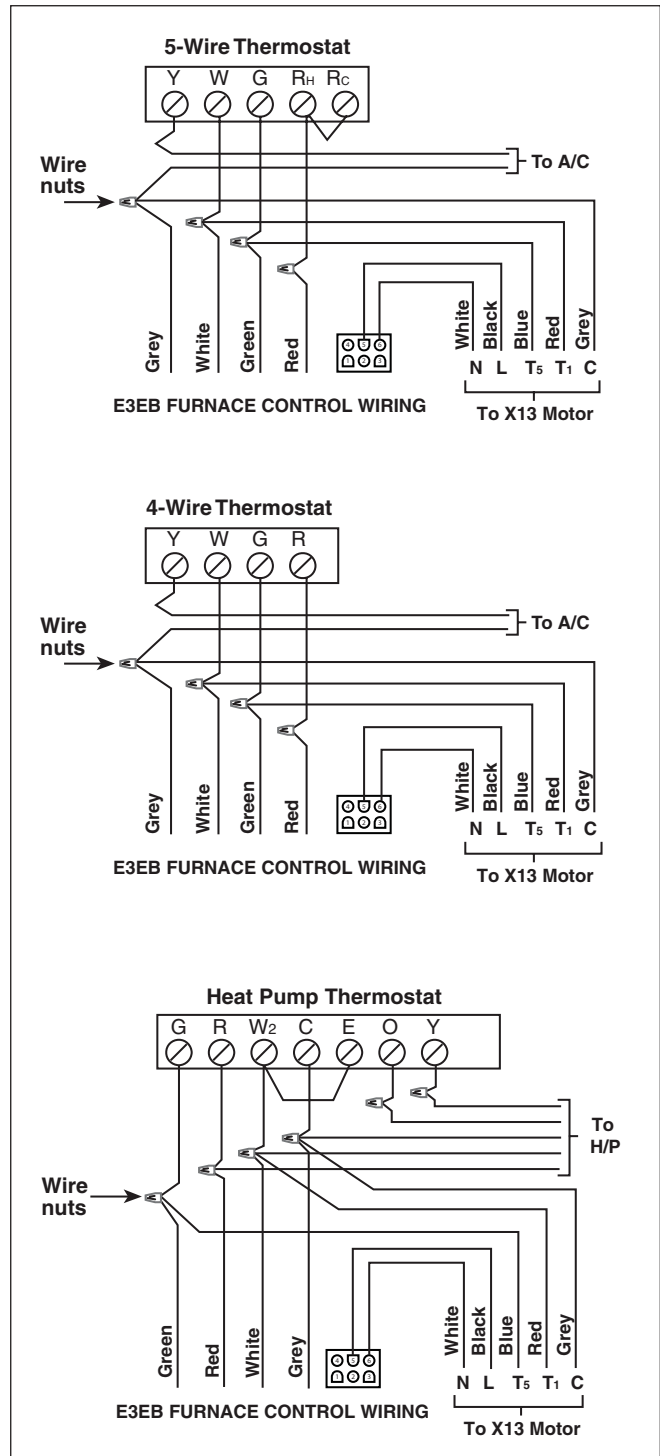

Figure 1. Thermostat Connections
7. Make the required thermostat wiring connection as shown in Figure 1.